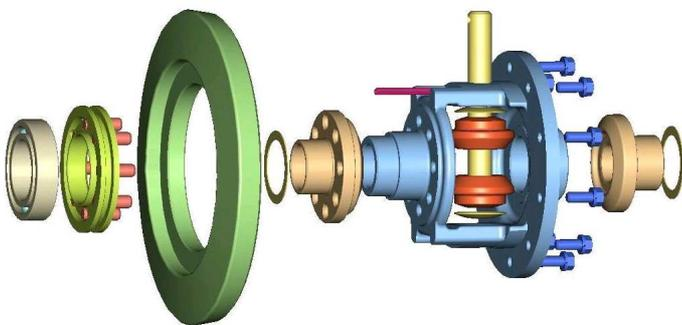

Fig.5-34
- As shown in Fig5-34, there are two kinds of differential side gears. Although are case hardened, the one installed on the side of the diff-lock is treated further and colored black. Take care not to mix them when assembling.